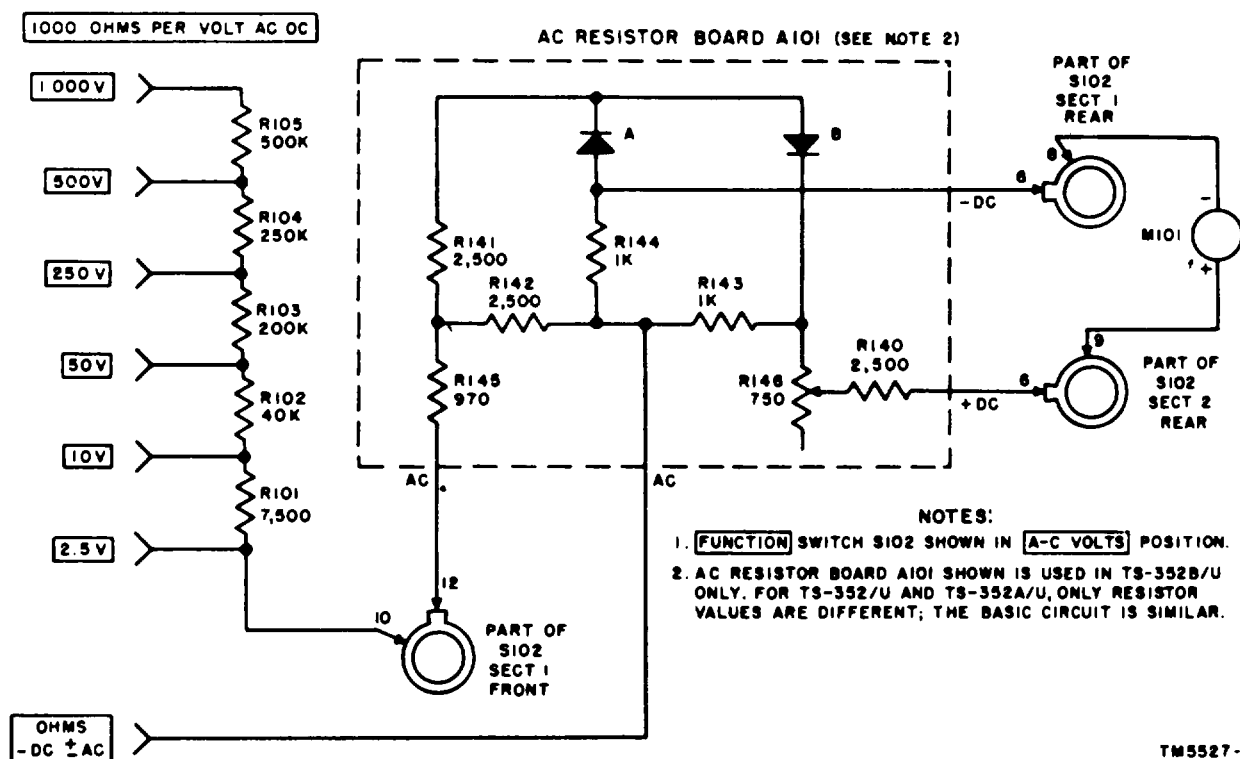

Figure 4-4. Ac voltmeter circuit, simplified schematic diagram.
a. The functioning of the ac voltmeter circuit is similar to that described for the dc voltmeter circuits (paras 4-2 and 4-3), except for the action of the full-wave rectifier (on ac resistor board A101) and its associated resistors. The same series-connected multiplier resistors are used (R101, R102, R103, R104, and R105) as in the 1,000-ohm-per-volt dc voltmeter circuit. However, regardless of the ac voltage applied to the jacks (within the marked values at the appropriate jacks), 2.5-volts ac will appear across the two input leads to the rectifier circuit for full-scale meter deflection (these leads are marked AC on figure 4-4). The functioning of the rectifier action is given in *b* below.
the incoming ac is negative at the OHMS - DC ±AC jack, rectifier B (fig. 4-4) conducts, and current flows through loading resistor R143, through the rectifier, resistors R141 and R145, and back to the other side of the incoming at-voltage source.